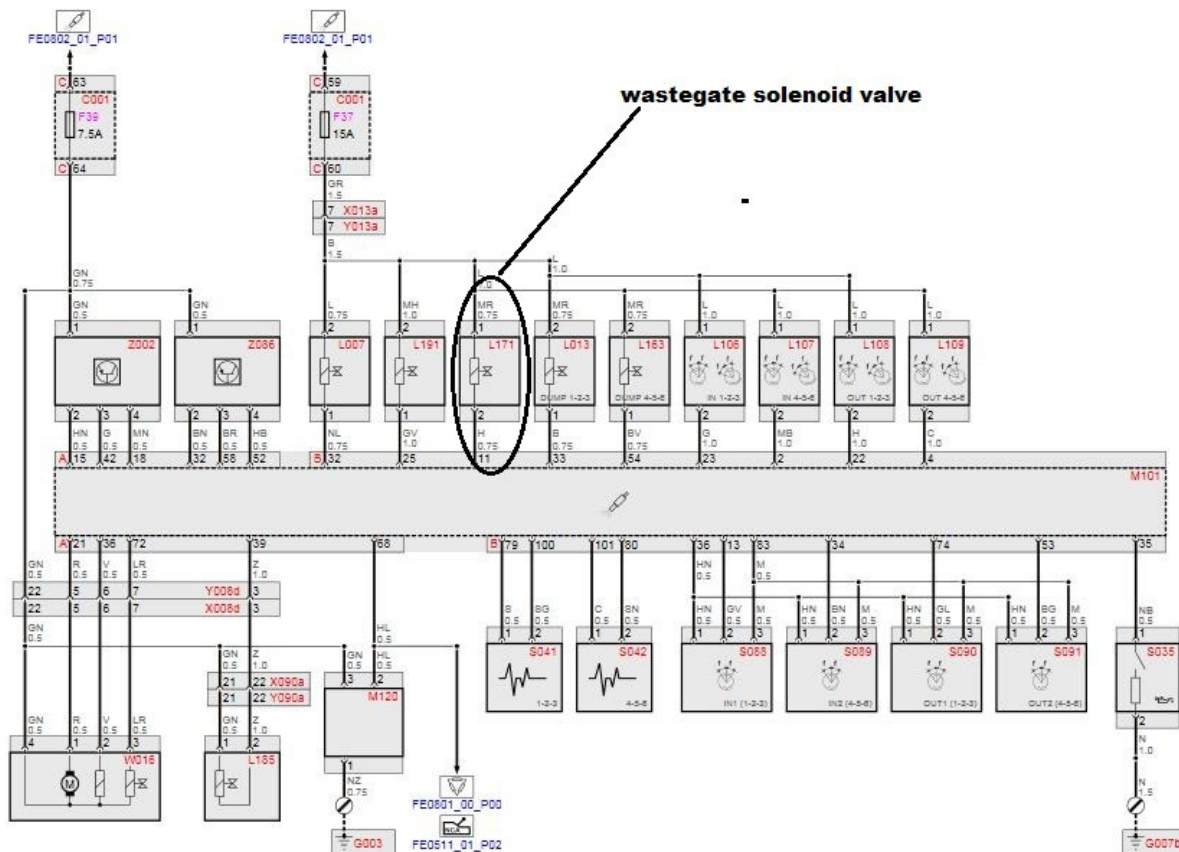

Figure 1 - FE0802 – wiring diagramEngines Fuel electronic management
- 3) Check the wiring harness integrity (continuity, absence of short circuits to ground or battery, absence of loose pins) of the wastegate valve and on MAF sensors (Figs. 1 and 2)